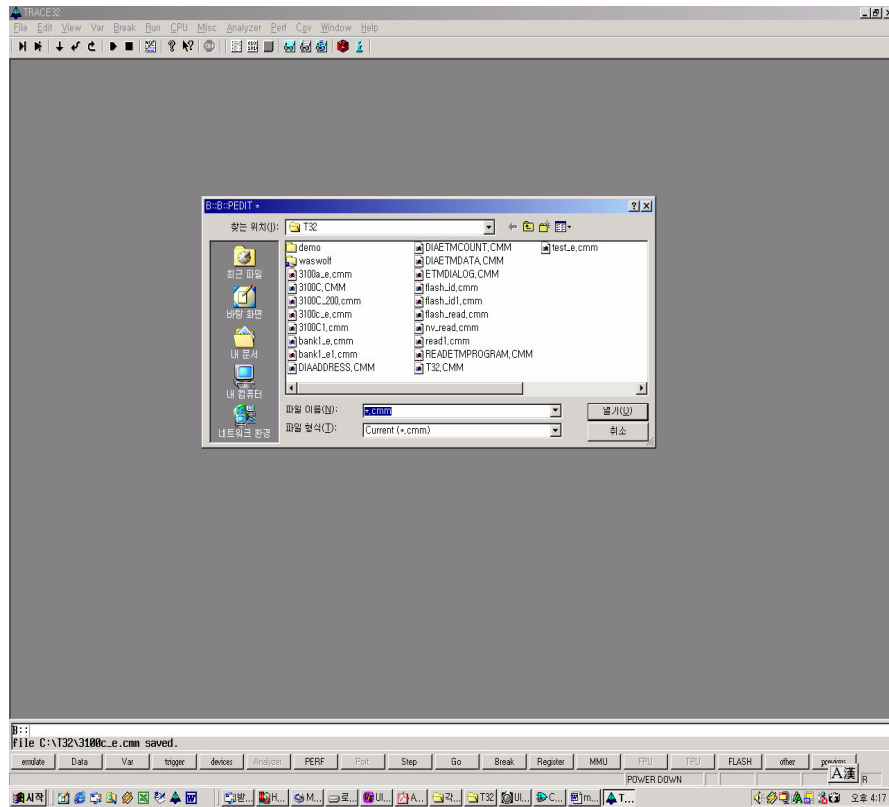

Figure 5.6
-Find and click the proper file (*.cmm) shown on the window of Fig 5.6.